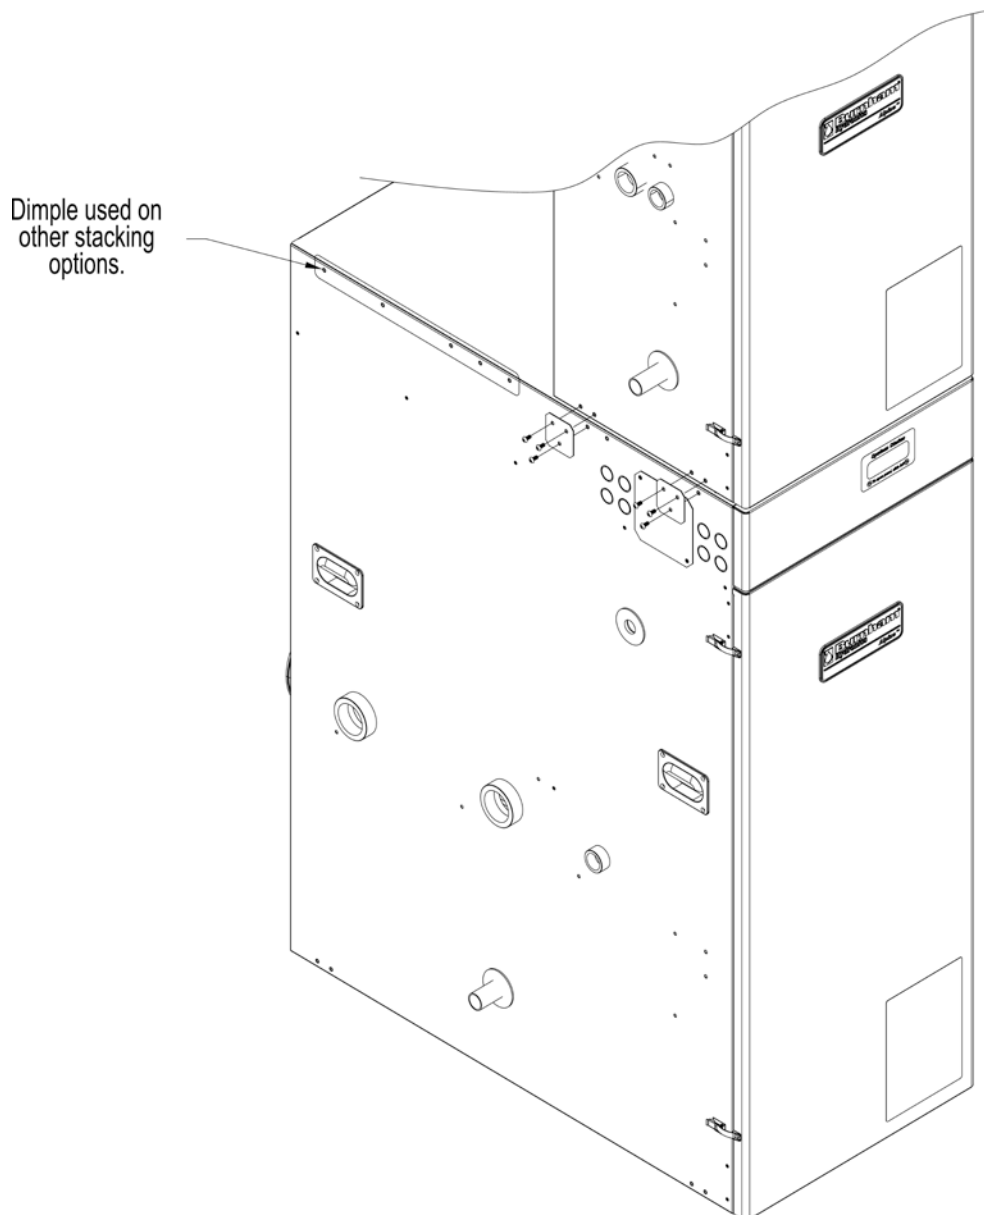

Figure 39: Stacking Boiler Attachment Bracket Placement
2. Each Alpine (ALP) boiler is factory packaged with two (2) Stacking Boiler Attachment Brackets (P/N 101679-01) and the bracket mounting hardware [six (6) self-drilling hex washer head plated #8 x 1/2” long screws, P/N 80860743]. Locate and remove the brackets and the hardware. The Stacking Boiler Attachments Bracket has three 7/32” diameter holes punched in a triangular pattern. See Figure 39 “Stacking Boiler Attachment Bracket Placement”.